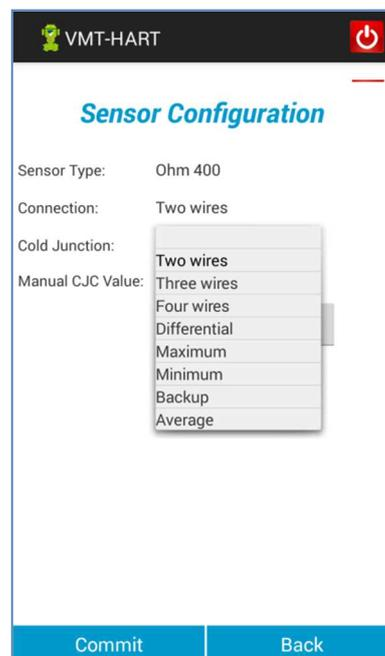

Figure 9.10 – Enumerated list.
- Enumerated (A list of corresponding string options with a list of values). Figure 9.10.